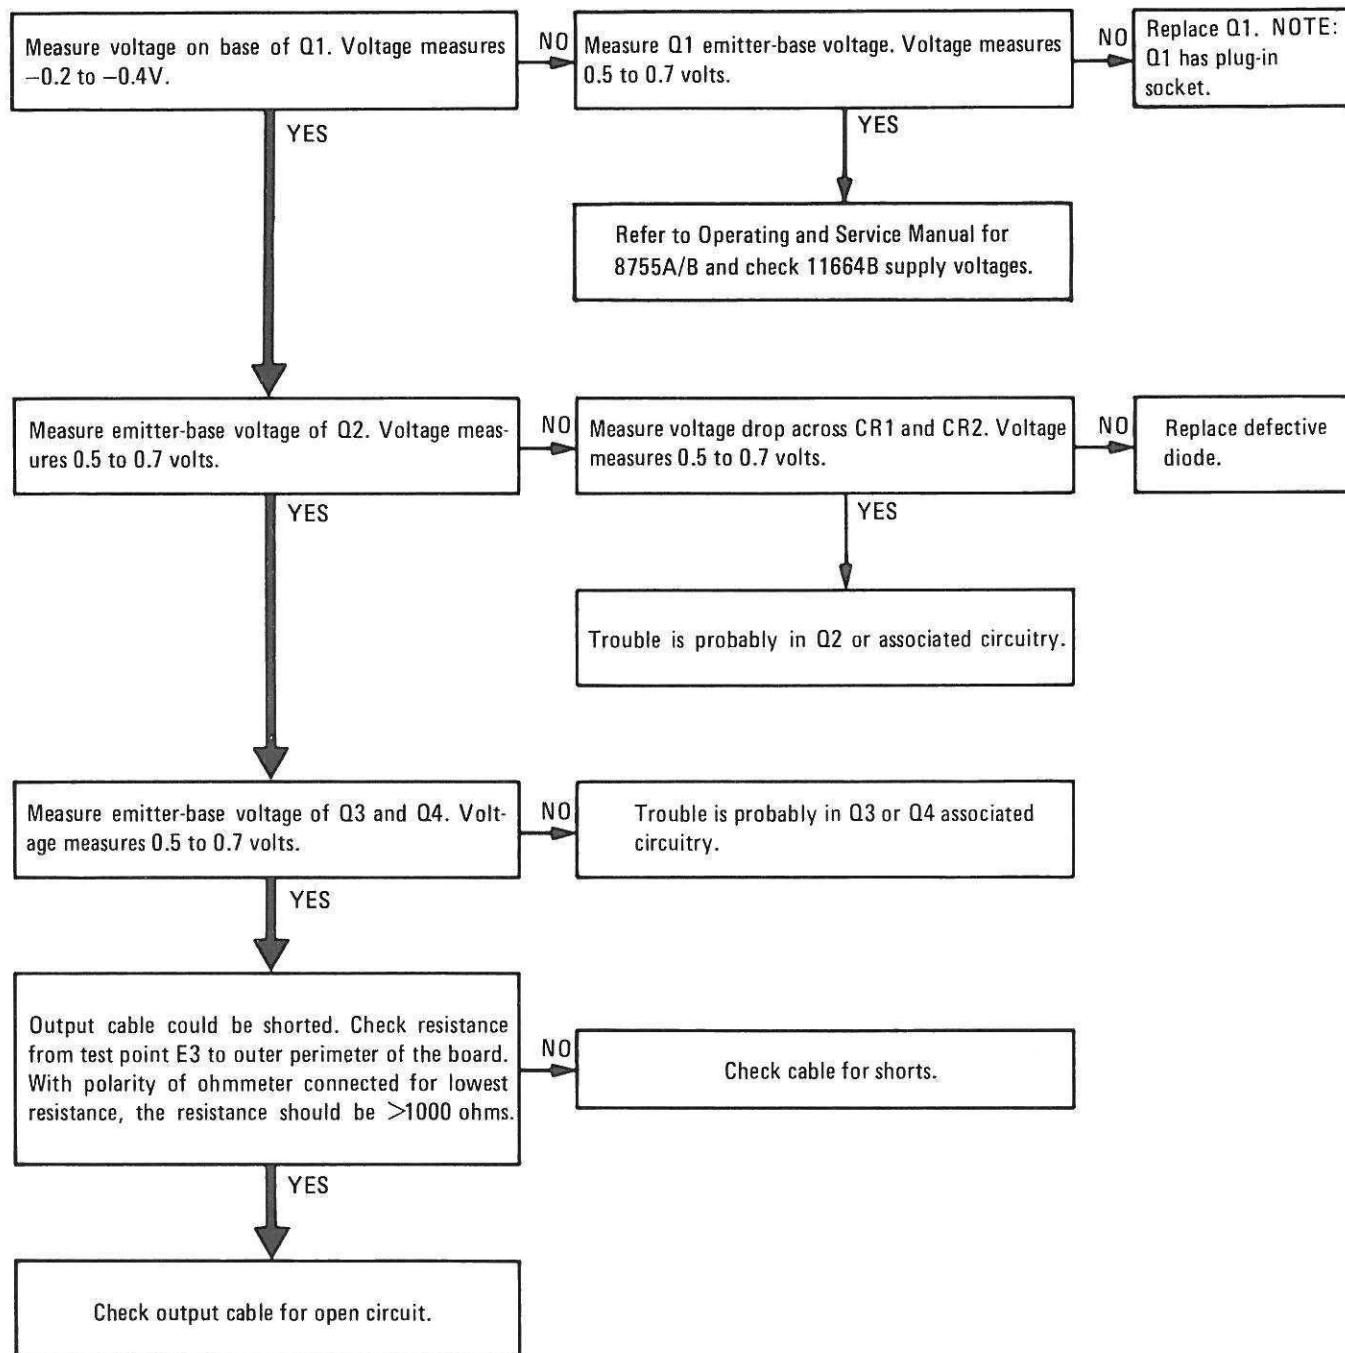

Figure 8-6. Isolating Trouble to an Individual Component in the A1 Preamplifier
- c. Isolate the trouble to an individual component using the procedures in Figure 8-6.